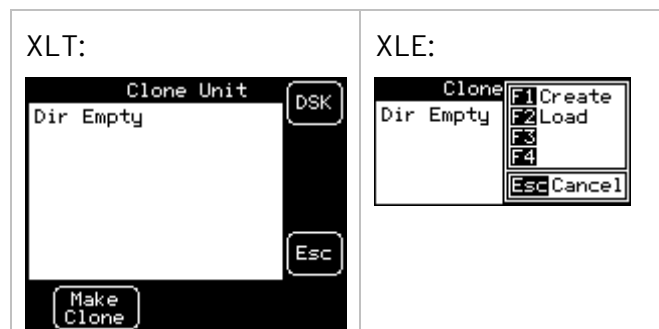

Figure 17.2 - Clone Unit Menu before Cloning
- a. In the above Figure 17.2, F3 and F4 are inactive in the Clone Unit.